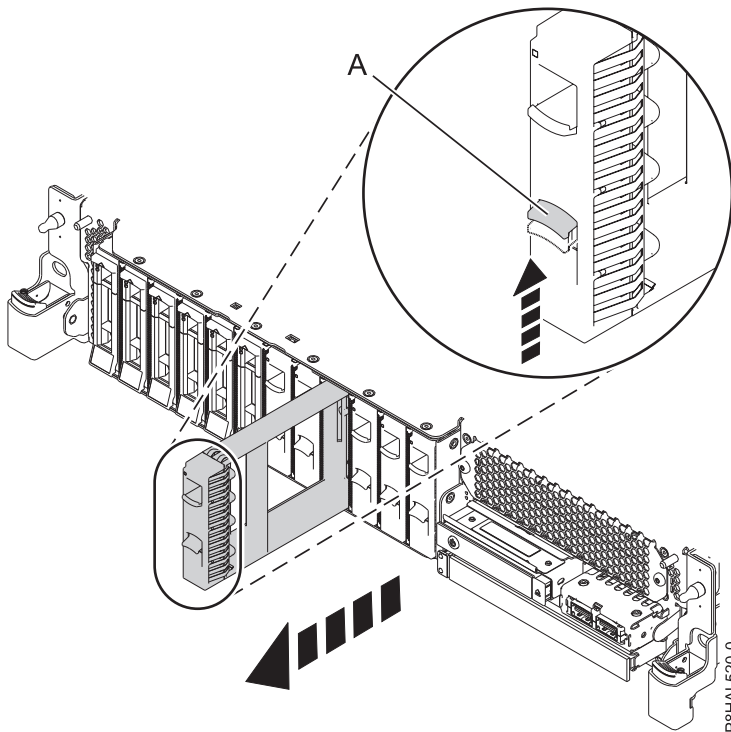

Figure 12. Removing a disk drive filler from a base function system
- a. Push the lock (A) on the handle of the filler in the direction that is shown in Figure 12.